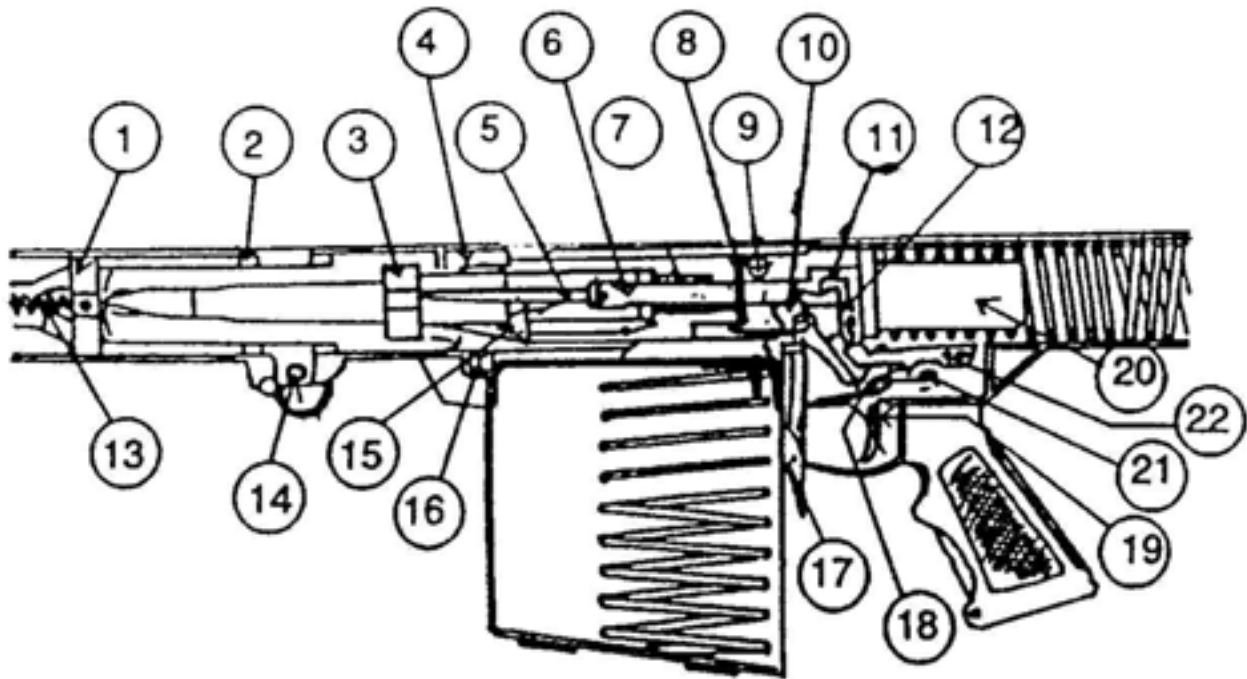

Figure 1-4. Identification of Operating Parts
1.3.1 GENERAL FUNCTIONING. The cycle of operation for the M82A1 Rifle is broken down into eight basic steps (more than one step may occur at the same time). For reference, see Figure 1-4 and the accompanying legend.